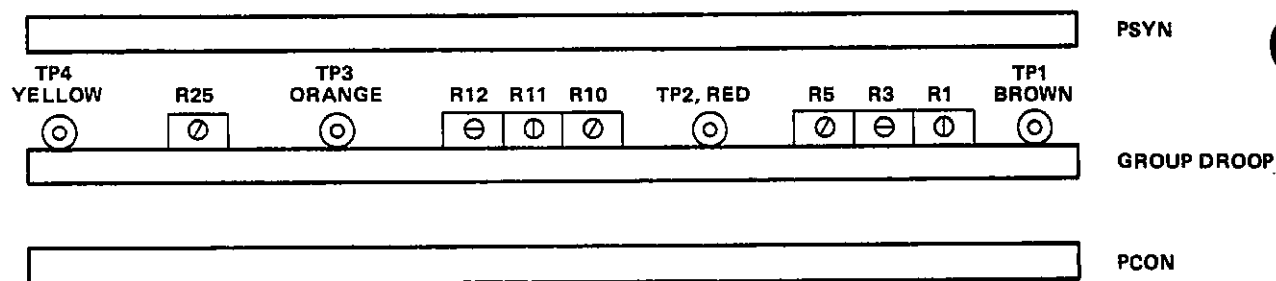

Figure 2.12. Test Point and Potentiometer Locations
2.5.3 Group Droop Module Programming and Initial Settings. This procedure is required when replacing a Group Droop module as well as for initial installation. For test point and potentiometer locations refer to Figure 2.12.
(4) Adjust R1 and R5 (see Figure 2.12) fully in the clockwise direction.
(5) Adjust R12 and R10 (see Figure 2.12) fully in the counterclockwise direction.